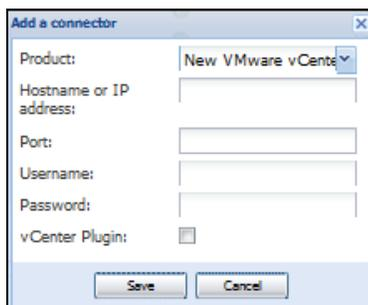

Figure 92. Add VMware vCenter
2. Add identification information for the selected connector (see Figure 92).